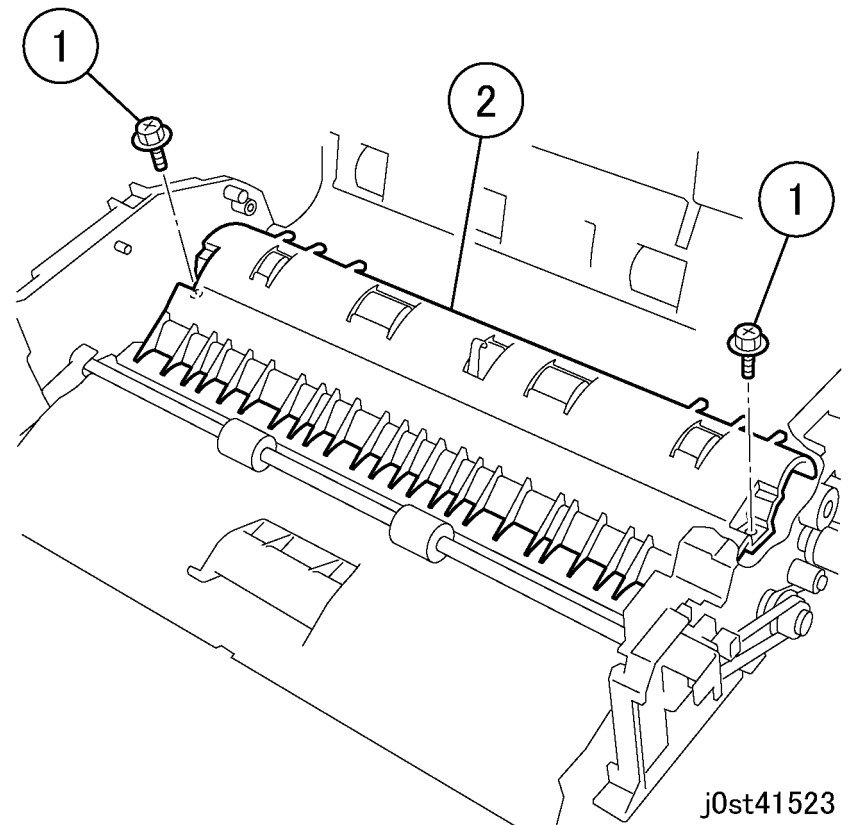

Figure 3 Removing the Feed Guide (j0st41523)
9. Remove the Feed Guide. (Figure 3)